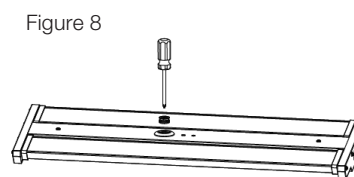

Figure 8
STEP 1: Use a screwdriver to remove the 1/2 plug from the sensor (Figure 8).